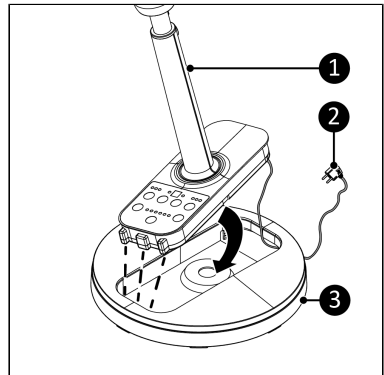

Figure 24.
2. Place the power cable (Figure 24, pos. 2) through the opening in the base (Figure 24, pos. 3).
3. Push the fan (Figure 24, pos. 1) into the opening in the base until it clicks.